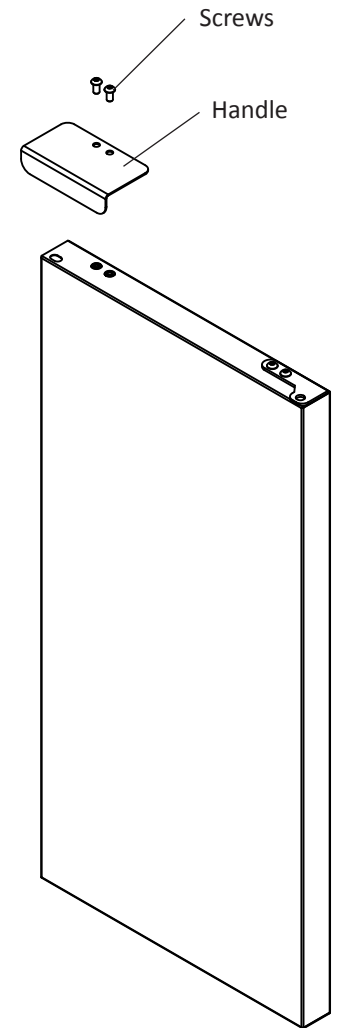

Figure 4
1. Remove the handle, (2) screws, and 5/32" allen wrench from the bag shipped inside the cabinet.
2. Locate handle opposite the hinges and secure in place using the (2) screws and the allen wrench. (See Figure 4).